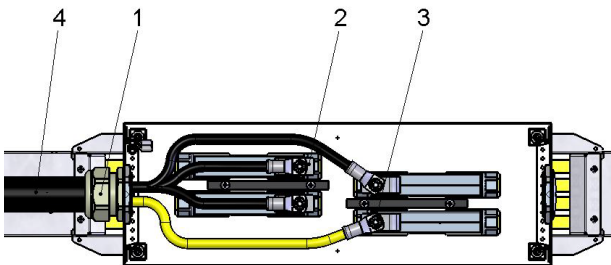

Fig. 45: Possible connection diagram for ProShell 128 Support Profile System
1. The connecting cables (4) are not included in the scope of delivery (see Fig. 45).
2. The connection of the cables to the tubular cable lugs (2 and 3) of the conductor rail line feed is to be carried out by the customer (see Fig. 45).
3. A strain relief for the connecting cable (4) must be installed on site. The round screw connection (1) on the terminal box must not be used as strain relief (see Fig. 45).